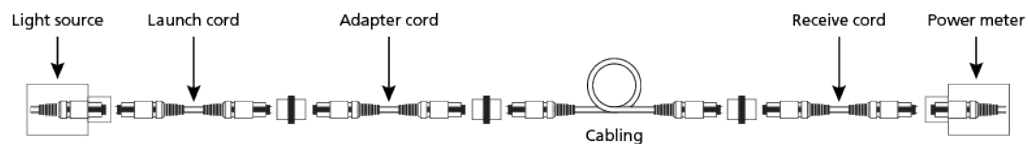

Figure 12. Measure attenuation of cabling
6. Attach the launch cord, adapter cord, power meter, and receive cord to the cabling under test (see Figure 12).